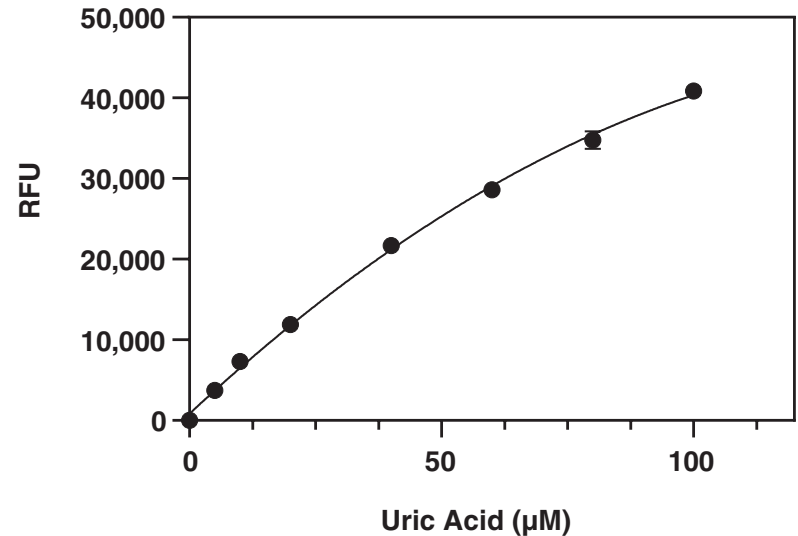

Figure 3. Uric acid standard curve - fluorometric
2. Subtract the fluorescence or absorbance value of standard A from itself and all other standards and samples. This is the corrected signal (CS).
3. Plot the CS values (from step 2 above) of each standard as a function of the final concentration of uric acid from Table 1 on page 13 or Table 2 on page 14, respectively. See Figures 3 and 4, on pages 17 and 18, for typical standard curves. For ease of calculation, the plot could be constructed with concentration on the y-axis and the CS on the x-axis.